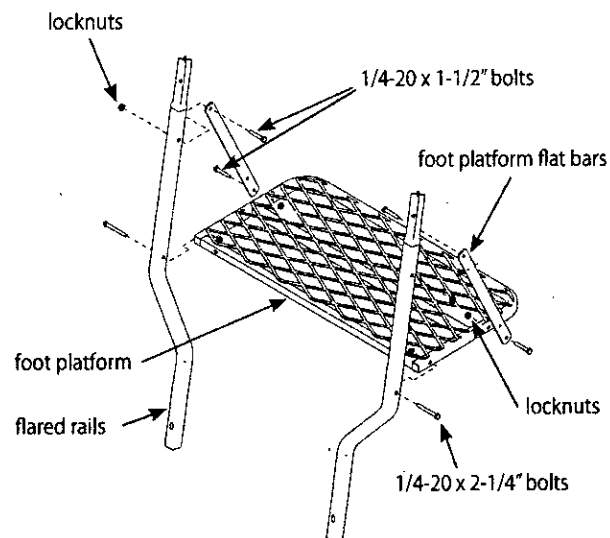

Figure 1
1. Attach the foot platform (112ML51) to the inside of flared rails (112ML61) using (2) provided 1/4-20 x 2-1/4" bolts and locknuts. **SEE FIGURE 1. DO NOT tighten all nut & bolt assemblies completely!**
2. Attach the foot platform flat bars (AL7) to the inside of flared rails and the outside of foot platform using (4) provided 1/4-20 x 1-1/2" bolts and locknuts. **SEE FIGURE 1.**